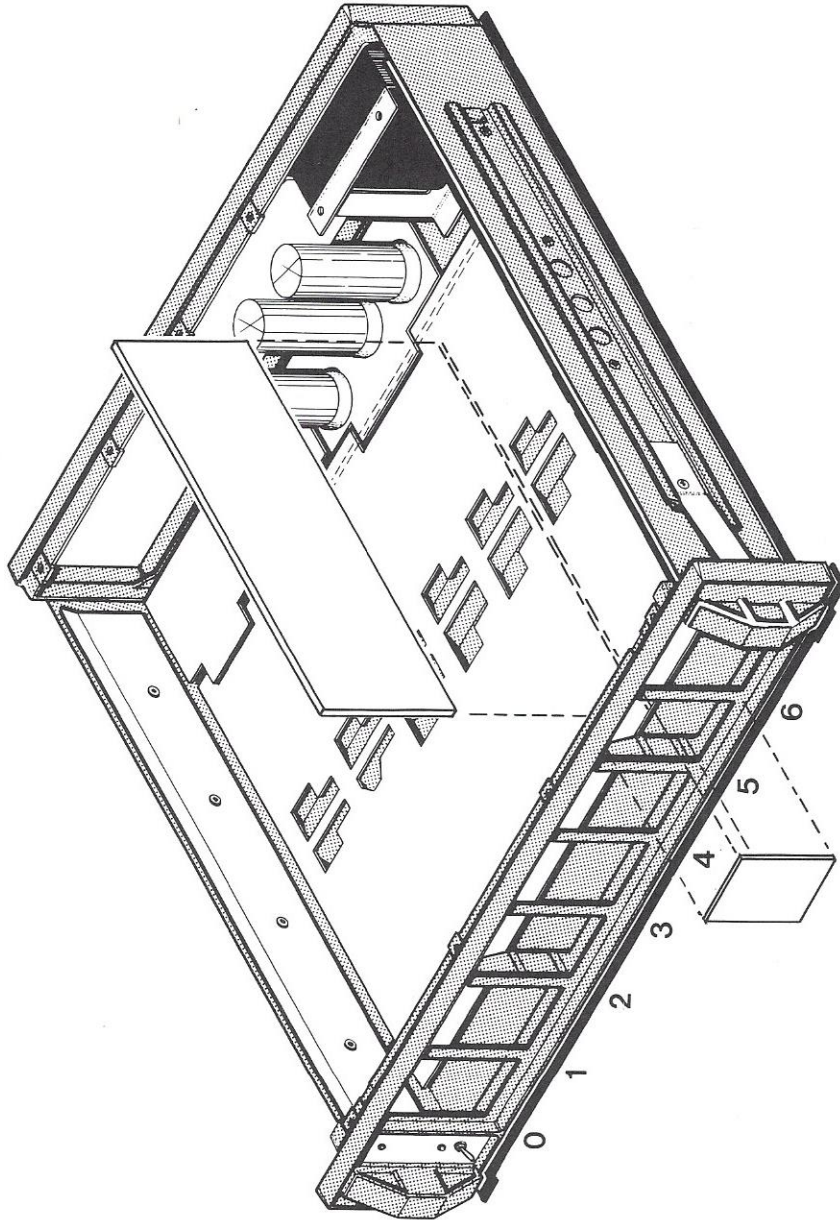

Fig. 3-1. Installing a module circuit board in the Mainframe.
1. Select one of the available 1410 Mainframe module locations for installation of the TSG2 module: Locations 2 through 6 with the SPG1 or SPG2 installed or locations 1 through 6 with the SPG3 installed (see Fig. 3-1).